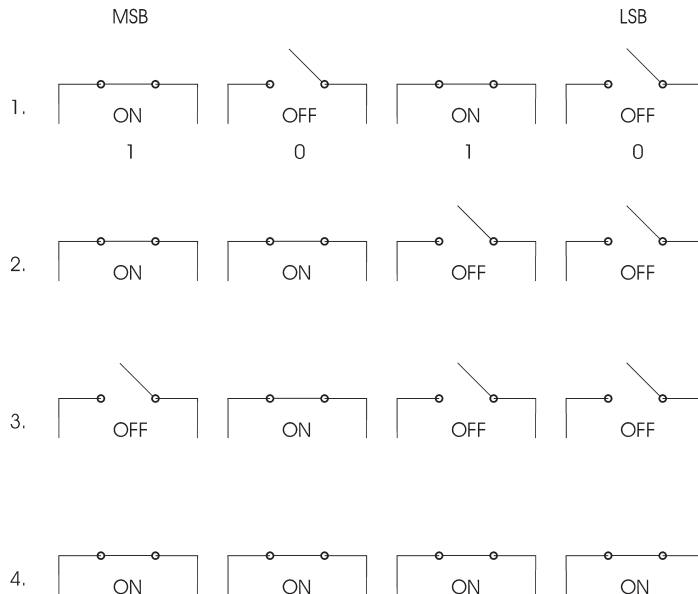

Figure 9-3
Example: For each of the four-bit switch banks shown in Figure 9-3, write down the equivalent binary number and convert it to decimal. A: (1) 1010; 10. (2) 1100; 12. (3) 0100; 4. (4) 1111; 15.